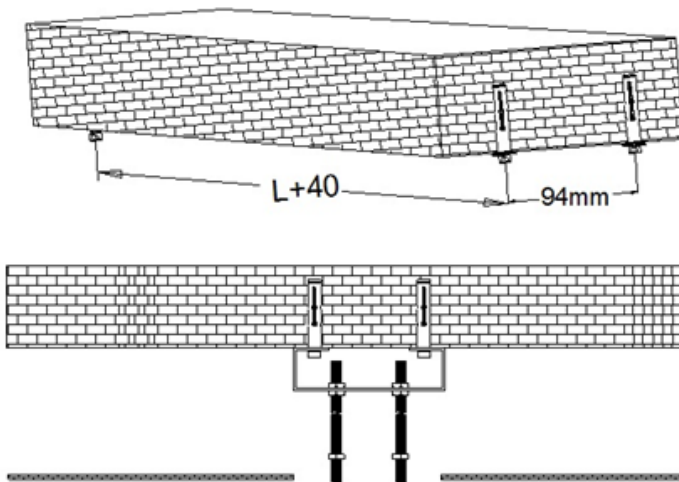

Figure 3
Now attach the two mounting brackets (A) to your ceiling. Please ensure that brackets are securely fastened and provide a safe installation. Then attach the 4 threaded rods (D) to the mounting brackets and attach a nut to each rod (Fig 3).
To retract the screen (see fig 3)
(Fig. 3)